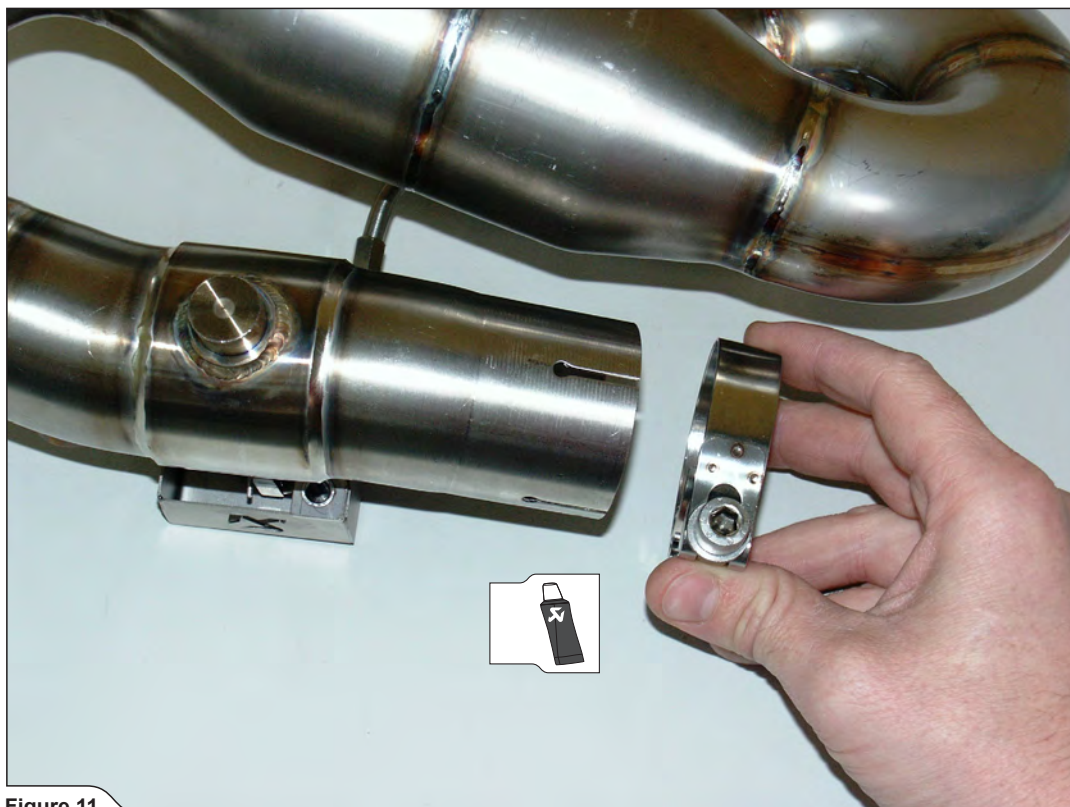

Figure 11
2. Coat the bolt and interior side of the metal clamp with Akrapovič anti-seize lead-free copper paste (black tube) (Figure 11, 12).